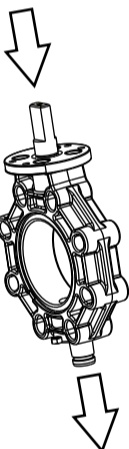

Fig. 2
- If disc (2) or self-sealing gasket (3) are to be replaced, remove handle (9) as above and proceed as follows:
- Remove bottom plug (6), loosen and remove screw (12) and O-ring (10).
- Tap top of shaft (4) with a rubber mallet until Noryl sleeve (15) is exposed and can be removed from bottom as seen in figure 2.